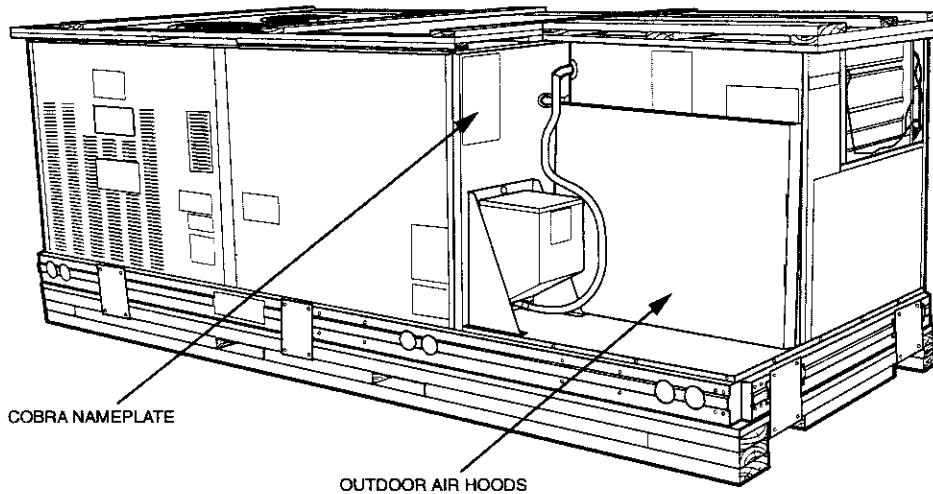

Fig. 1 — Shipping Packaging (48/50HJ004-006 Shown)
Step 1 — Inspect Shipment — File a claim with the shipping company if shipment is incomplete or damaged. See Fig. 1 for typical shipping packaging of a COBRA™ energy recovery unit.